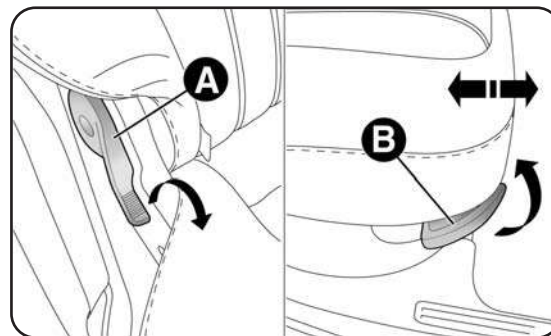

fig. 64
- adjust one of levers A - fig. 64 to fold the desired backrest (to facilitate this operation, slightly move the seat forwards by operating lever B, for versions/markets where provided).
To extend the luggage compartment further, the rear seats can be pushed forwards by operating handle B - fig. 64 (for versions/markets where provided).
Press levers A - fig. 64, lift up the backrests and push them backwards until you hear a click from both attachment mechanisms. Use handle B - fig. 64 (for versions/markets where provided) to move the seats back until you hear a click.